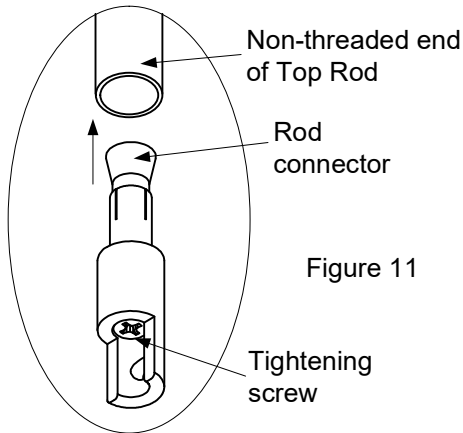

Figure 11
4. Insert the rod connector into the non-threaded end of the top rod and tighten the screw. (See Figure 11.)